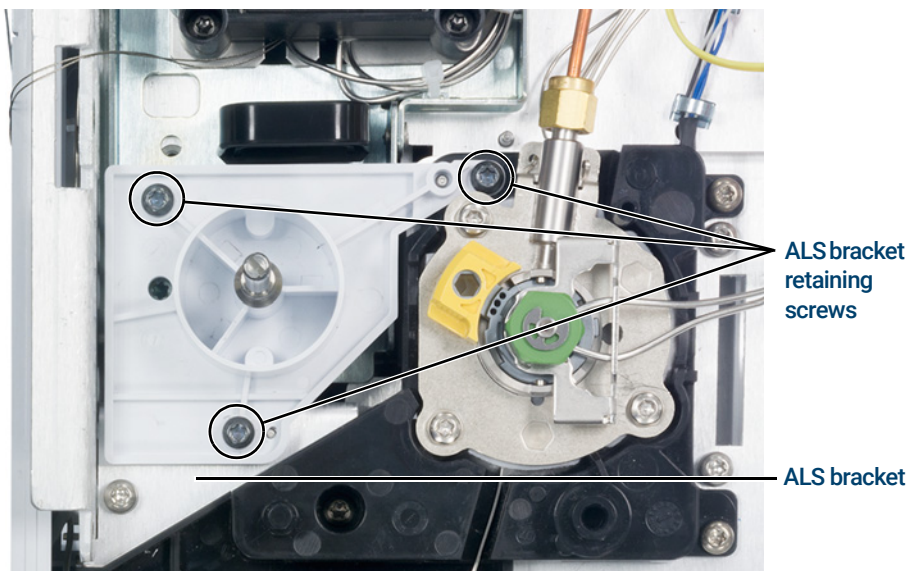

Figure 5. ALS bracket removal
- e Completely loosen the three captive screws securing the ALS tower support bracket to the GC, and remove the bracket. See **Figure 5**.